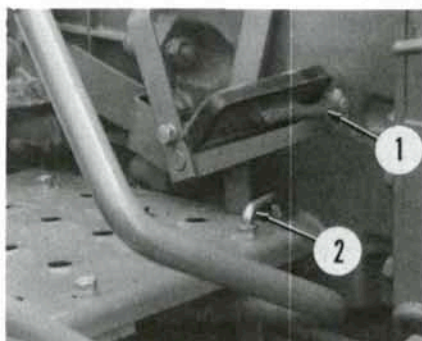

Fig. 185—View of hydrostatic transmission foot control pedal (1) and pedal stop (2).
With engine shut off, depress foot pedal fully in forward position until internal stop is contacted. Adjust pedal stop (2—Fig. 185) until pedal (1) is moved slightly rearward, then tighten locknut.